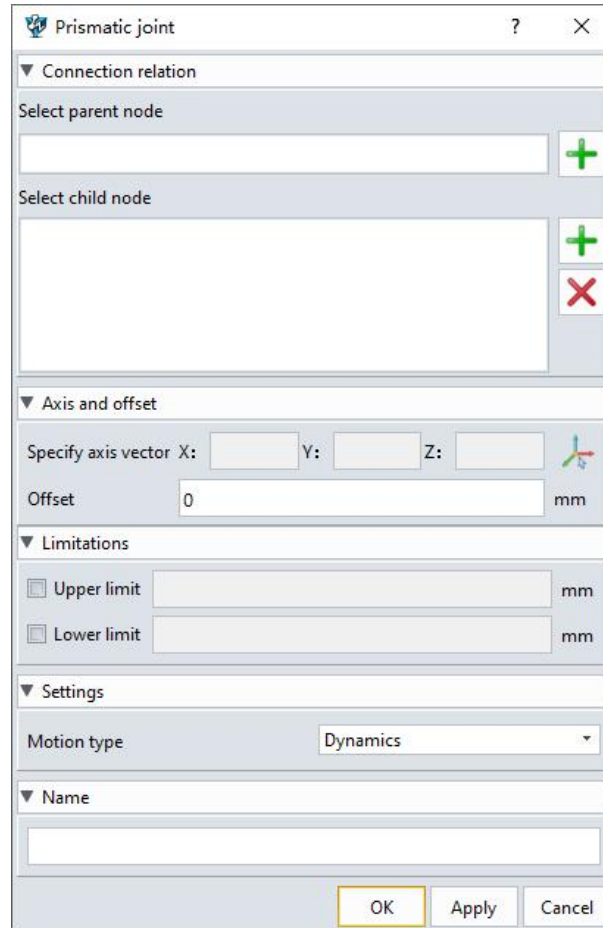

Figure 3-9: Prismatic joint
- Offset: The distance between the connector and the basic component before the simulation starts.(Figure 3-9)